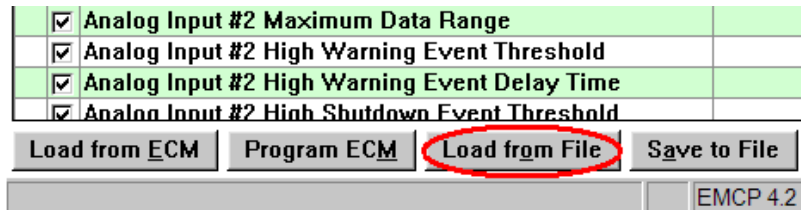

Figure 15.8– Load ECM Replacement File
8. If another replacement file is to be programmed or if the user is already at the ECM Replacement screen prior to opening a replacement file, press the "Load from File" button at the bottom of the screen and follow steps 3 through 7 above. See Figure 15.8.